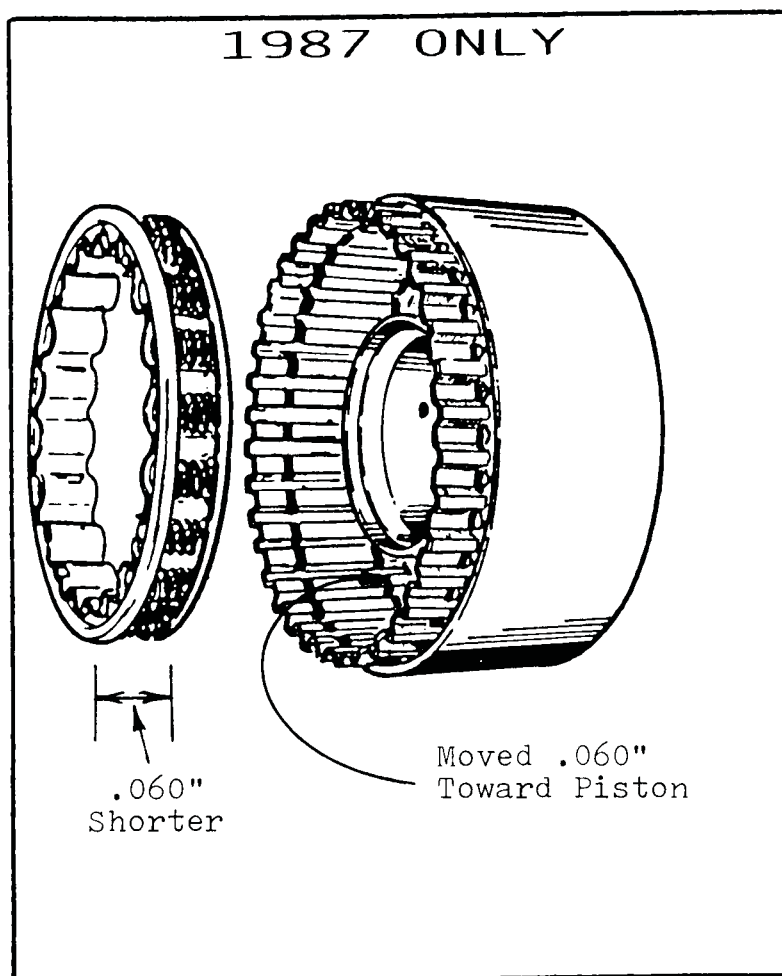

Figure 31
- 1) 2nd Clutch Housing - Bottom snap ring groove moved .060" toward the piston (See Figure 31).
- 2) Apply Ring And Return Spring Assy - Shortened by .060" (See Figure 31).